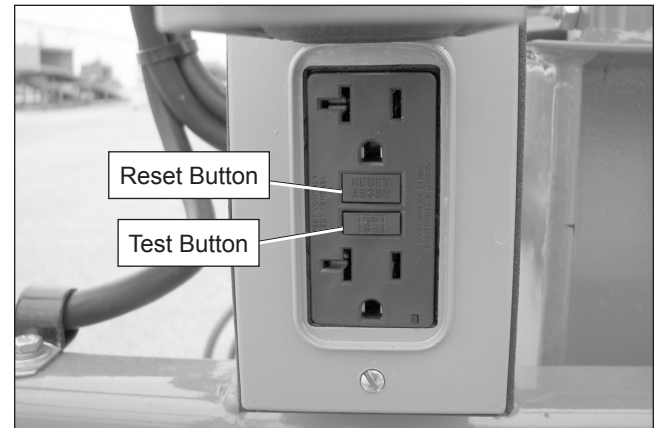

Figure 7.25 – Electrical Outlet
1. Push the test button (refer to Figure 7.25).